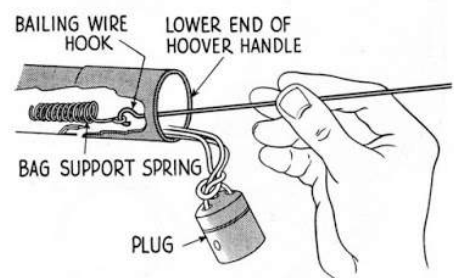

FIG. 32—Releasing bag support spring
5. With a small hook at the end of a two foot wire, release spring from metal tab. See Figure 32.